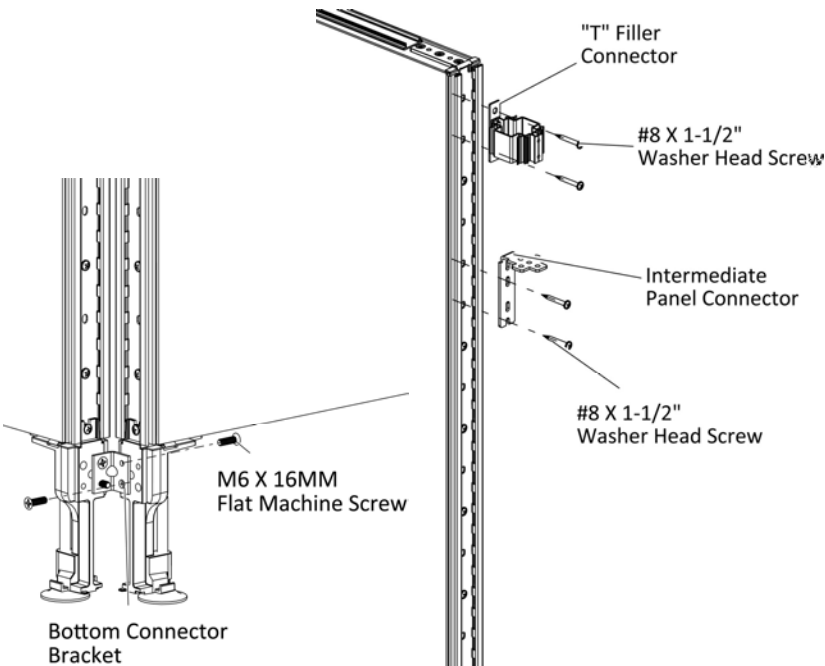

Figure 4
- 8. Securely fasten the base with two M6 X 16MM Flat Machine Screws, (Figure 4).